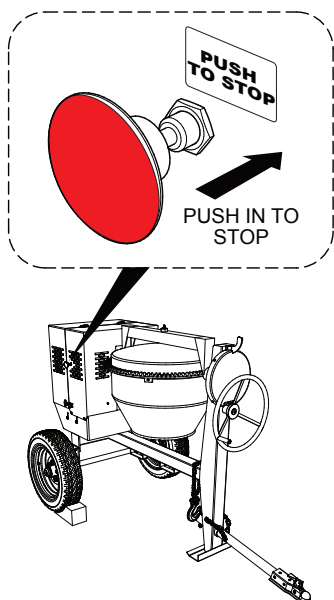

Figure 27. Start/Stop Button (Stop Position)
2. Push the engine **start/stop** switch (Figure 27) inward to stop the engine.